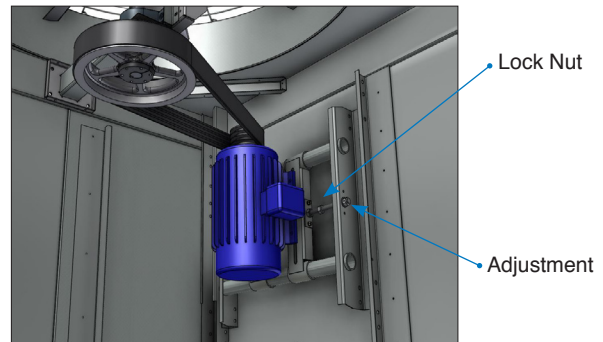

Figure 5. Independent Drive Adjustment
- **Independent Drive Adjustment:** If the motor needs to be adjusted, loosen the lock nut first, then adjust the motor base (see Figure 5).